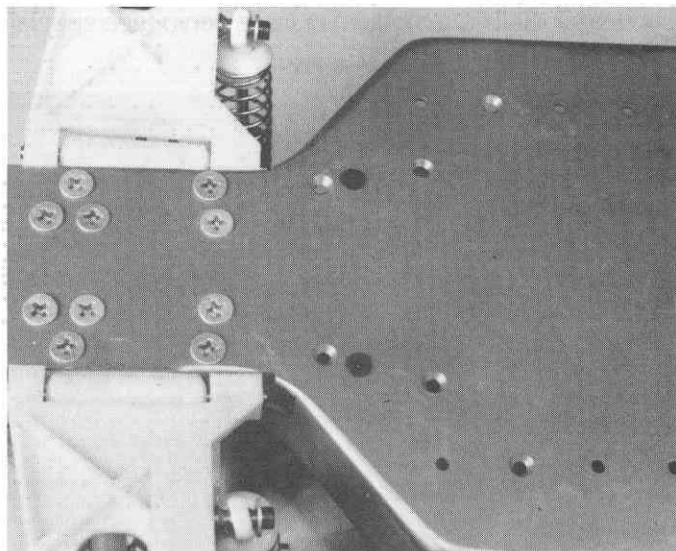

Fig. 157
□ **Fig. 157** These are the mounting holes you should use.